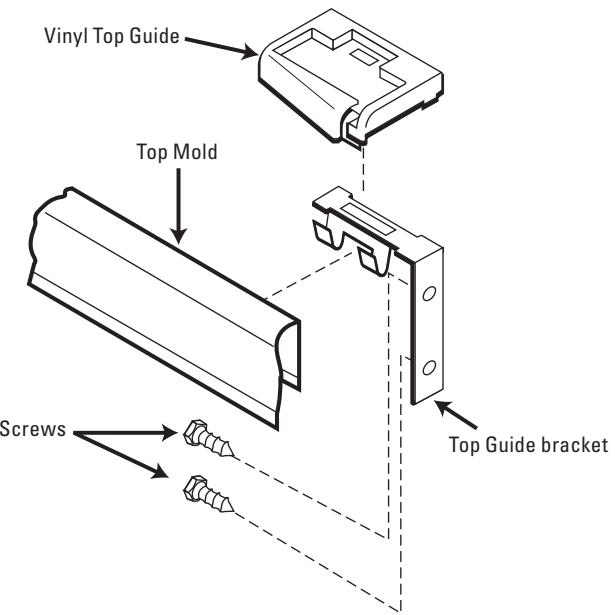

Figure 4
B. For Aspen™, Econoline™, Colonial™ and Savoy™ models, insert Vinyl Top Guides into Top Guide Bracket on top of Door Panels by firmly snapping into place. Please refer to your Illustrated Parts Breakdown (IPB) drawing associated to your specific model (See **Figure 4**).